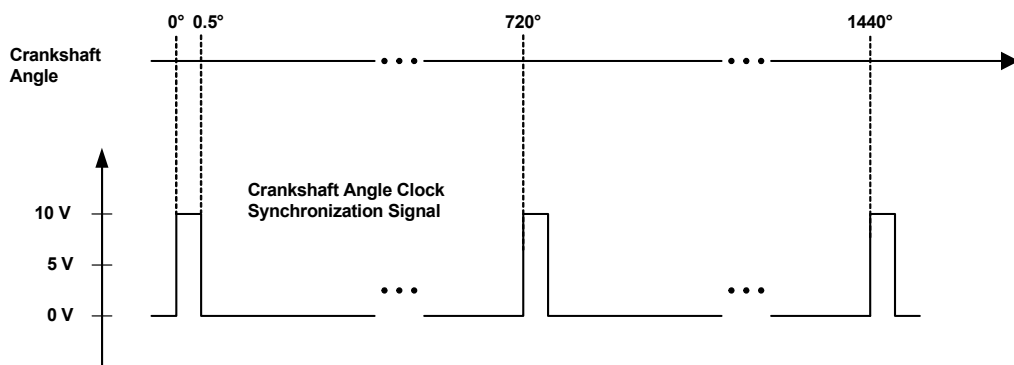

Fig. 10-9 Signal for Synchronizing to 0° Camshaft
- of the signal for synchronizing to 0° camshaft (see Fig. 10-9)